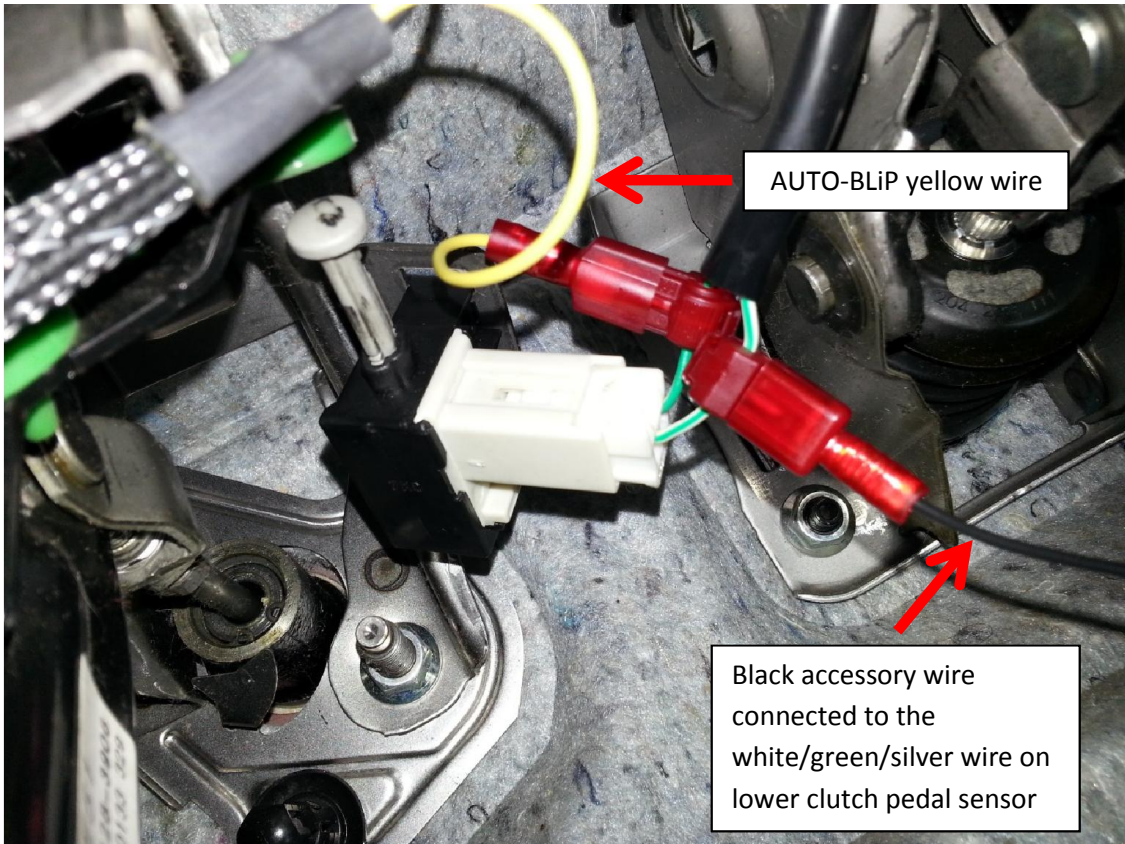

Figure 5 (Lower Clutch Sensor wiretap placement)
8. Connect *AUTO-BLiP* **yellow** wire to the **green/white** wire on the LOWER clutch pedal sensor (**Figure 5**).